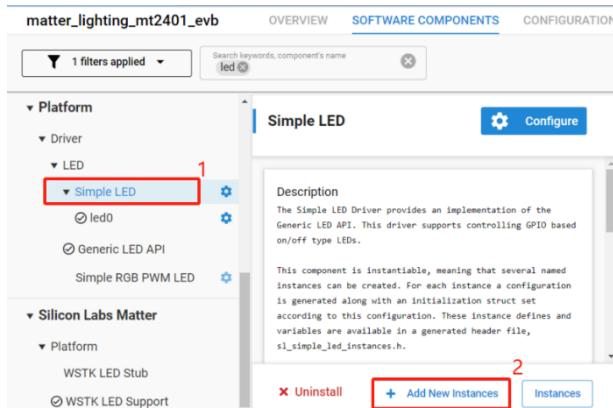

Figure 5.10
- 5) Repeat the above steps and add another LED (led1), as shown in figure 5.10